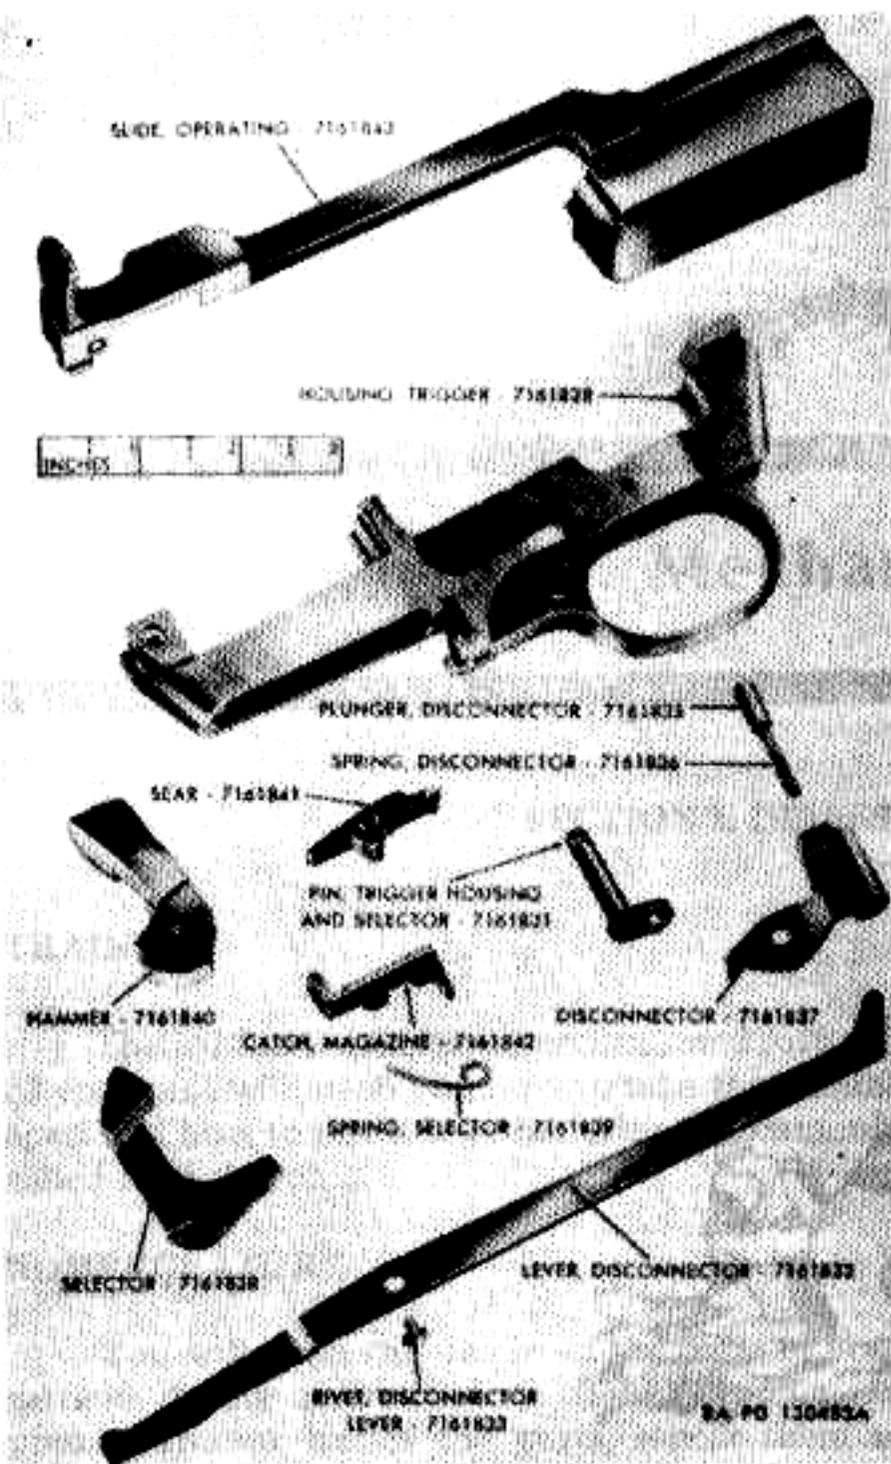

Figure 3b. Operating parts for carbines M2 and M3.
d. *Component Differences Between Full Automatic and Semi-Automatic Carbines* (Fig. 3b).